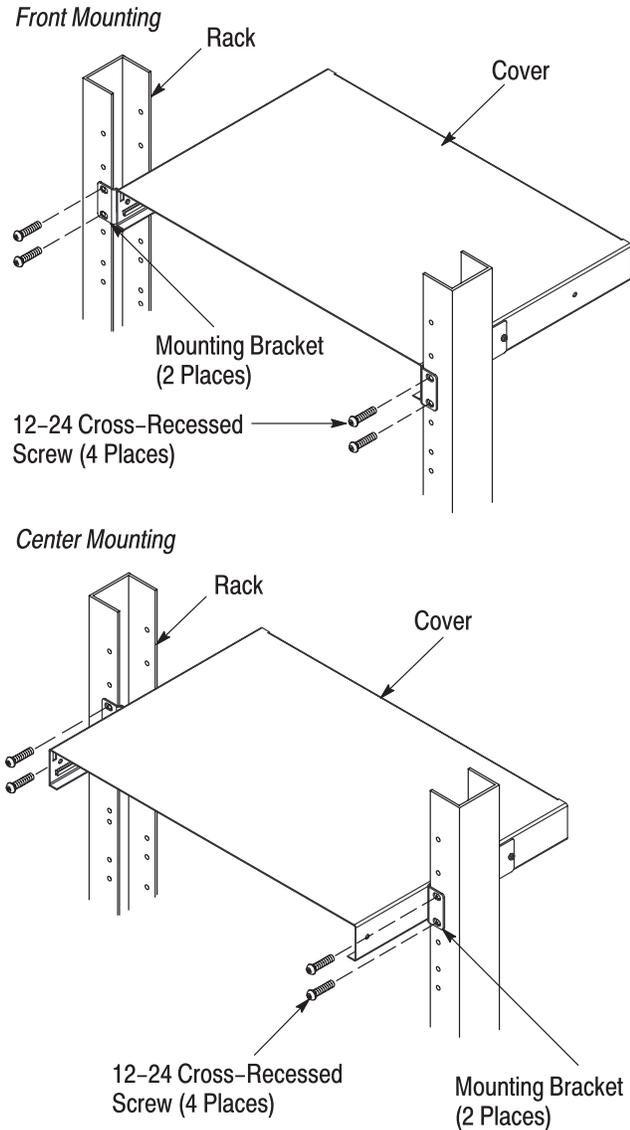

Figure 2
2. For front mounting, the mounting brackets are pre-assembled to the cover; align the holes in the mounting brackets with the holes in the rack, and using the cross-recessed screws, secure the cover to the rack. See Figure 2.
3. For center mounting, remove the mounting brackets from the cover; align the holes in the long leg of the mounting brackets with the holes toward the back of the cover, and re-assemble the brackets onto the cover. Align the holes in the mounting brackets with the holes in the rack, and using the cross-recessed screws, secure the cover to the rack. See Figure 2.